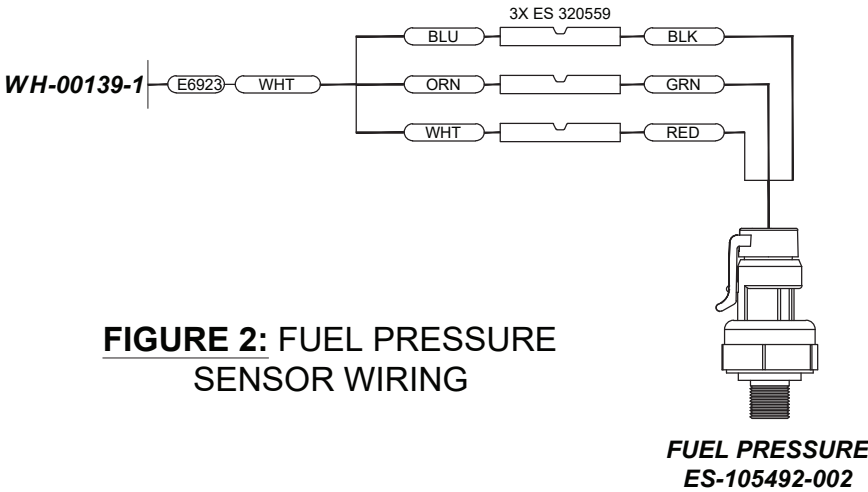

FIGURE 2: FUEL PRESSURE SENSOR WIRING
Step 8: Strip the insulation on each wire of the E6923 (WHT) cable, then crimp on butt splices to connect the wires to those coming from the ES-105492-002 Fuel Pressure Sensor. See Figure 2 for exact connections.